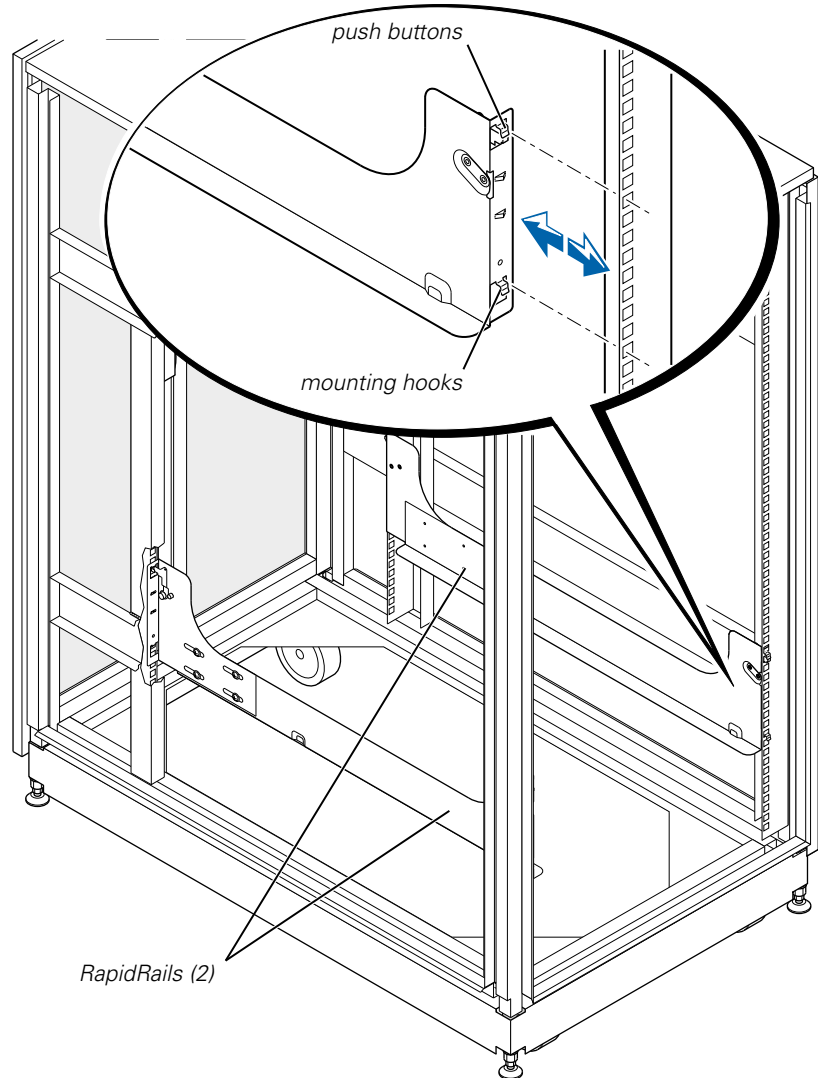

Figure 1-4. Installing the RapidRails
1. Slide the back mounting flange towards the center of the slide assembly to slightly reduce the slide assembly's overall length (see Figure 1-4).